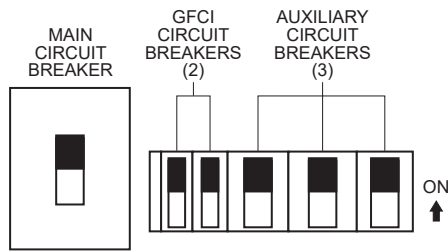

Figure 15. Main, Auxiliary, And GFCI Circuit Breakers (ON)
12. Place the **main, auxiliary, and GFCI** circuit breakers in the **ON** position (Figure 15).